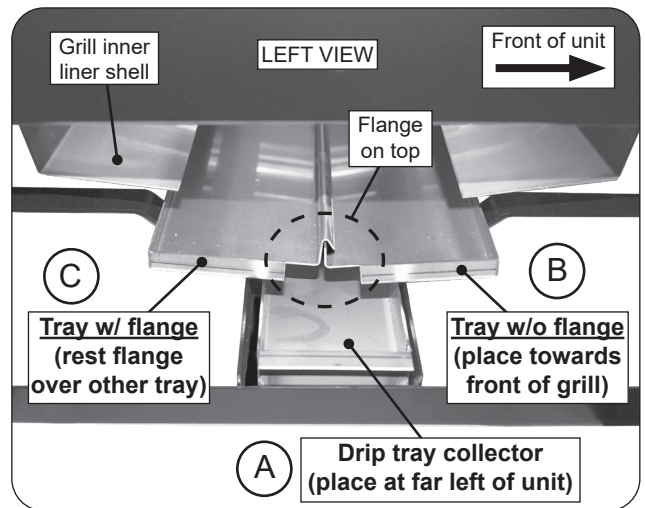

Fig. 27-2 Tray placement
1. Take the drip tray collector and rest it on the bottom-most center frame of the unit. Once properly rested, slide the tray to the far left of the unit. See Fig. 27-2, A.
- c. Orient the tray so it sits towards the front of the unit. See Fig. 27-2, B.
- c. Orient the tray so it sits on the rear portion of the unit, with the flange resting over the other tray. See Fig. 27-2, C.